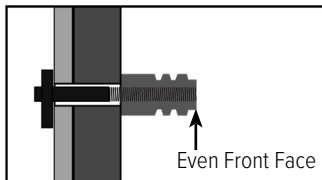

Figure 4.1.6
4.1.6 Make sure the front face of the aluminum insert is flush with the T-Bolt as shown in Figure 4.1.6.